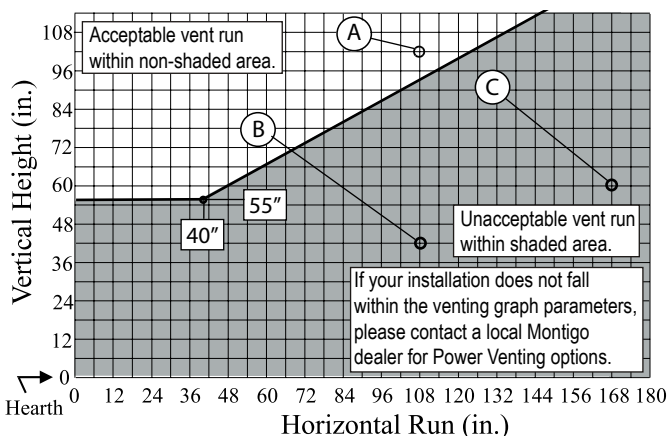

Figure 15. Rear Vent Venting Graph for wall mounted terminations.
- Venting runs *must* fall within the limits set by the venting graphs, see **Figure 15**.
Measure the vertical height from the fireplace hearth to the centre of the termination and the horizontal run from the fireplace flue collar to the wall flange of the termination. Plot on the Venting Graph **Figure 15** with an 'X'. If the 'X' falls on or above the top boundary of the shaded area, the installation is acceptable.
Figure 15a. Rear Vented, wall mounted Multi-elbow termination installation. Installation for L52DF* must have a minimum vertical rise of 52". The vent run must comply with the Venting Graph for Rear vent, wall mounted terminations, Figure 15.
To install the RHS8, frame an opening in combustible construction, **Figure 15** below. Slide the Heat shield in place over the vent pipe which attaches to the fireplace. After the fireplace and vent pipe has been installed, clearances should match the dimensions in **Figure 15**.